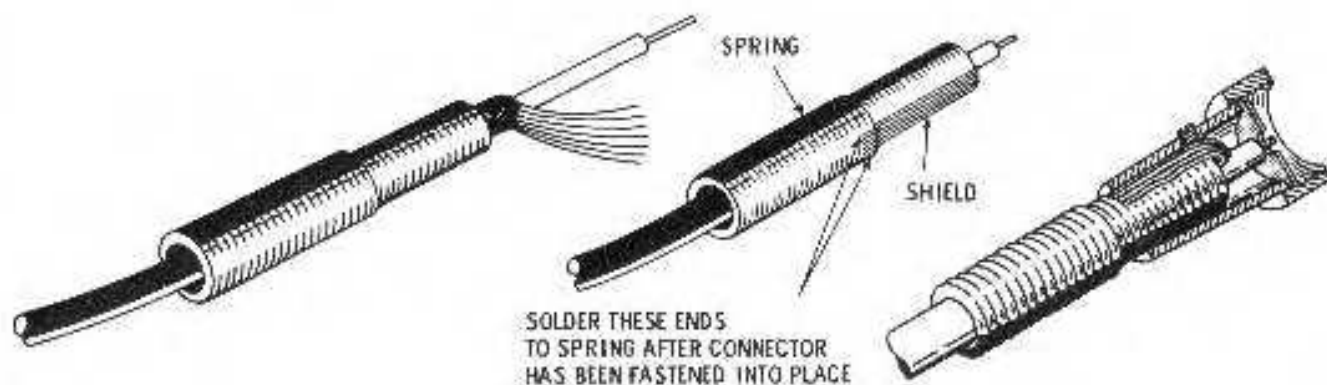

FIGURE 19
- ( ) 104. Slip the female cable connector spring over this end of the cable with the smaller diameter toward the cable end. See Figure 19.
- ( ) 105 With the spring pushed back along the cable, unbraid the shield back for a distance of 1-1/4". Pull back the unbraided shield until the ends extend on to the large diameter section of the spring. See Figure 19